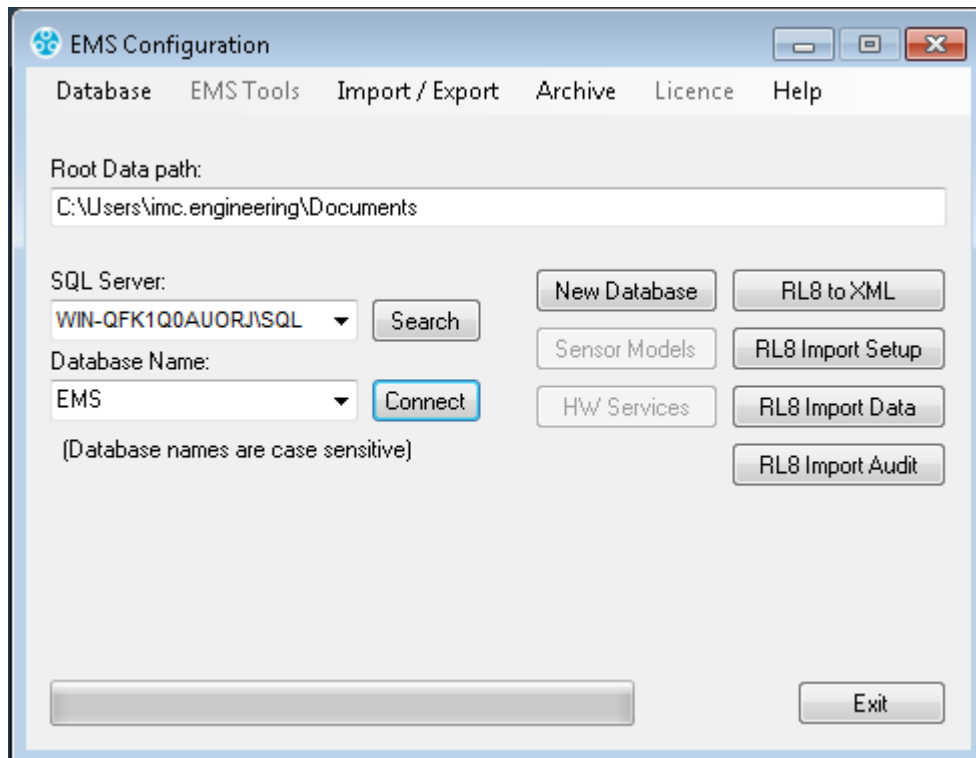

Figure 114
**EMS W900A** must use an SQL Server on the Local machine which should appear at the top of the **SQL Server:** drop-down list. See Figure 114 below:
- A typical SQL Server is shown in Figure 114 above.
If no Servers are shown in the SQL Server: drop-down list. See Figure 114 above.